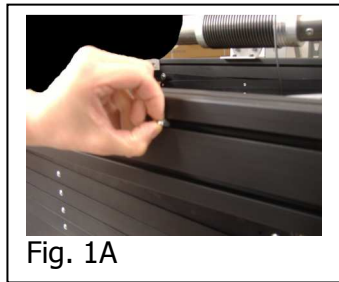
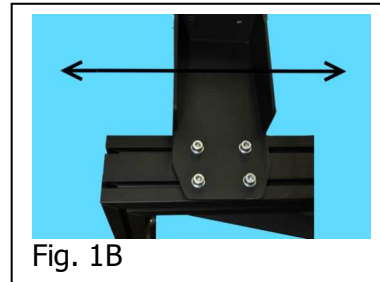

Fig. 1A
Fig. 1B
- In order to mount the four metal brackets shown on Fig. "B" above on the upper aluminium frame of the SI-H 500, please use screws, washers and crowned nuts mentioned on "C, D, E" of the supplied equipment list; put inside the groove of the aluminium frame the crowned nut as shown on Fig. 1A; connect the ceiling bracket to the profile by the socket head screws and the crowned nuts, move the ceiling bracket along the profile in order to position it where needed (Fig. 1B); now firmly tighten the screws of the four brackets.